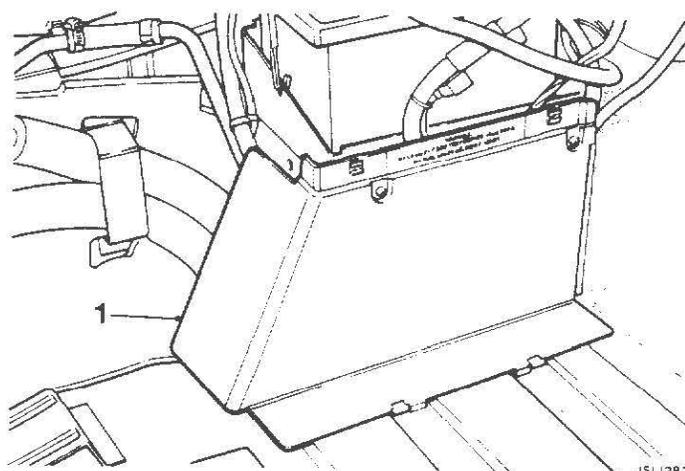

FIG 2
4. Disconnect the battery and remove the fuel pump cover (1 Fig 2).